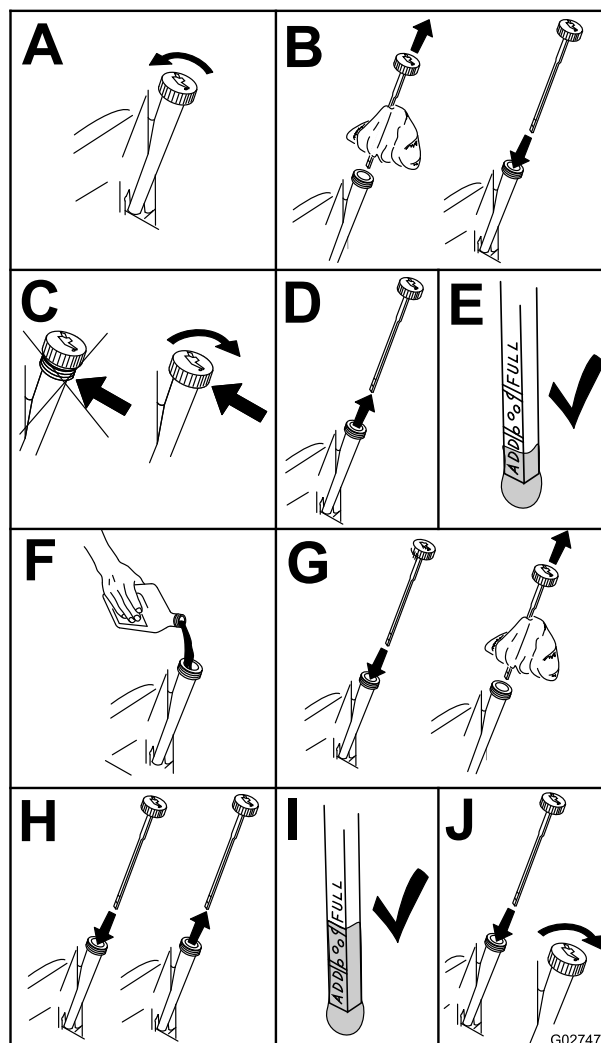

Figure 29
3. To keep dirt, grass clippings, etc., out of the engine, clean the area around the oil-fill cap and dipstick before removing it (Figure 29).